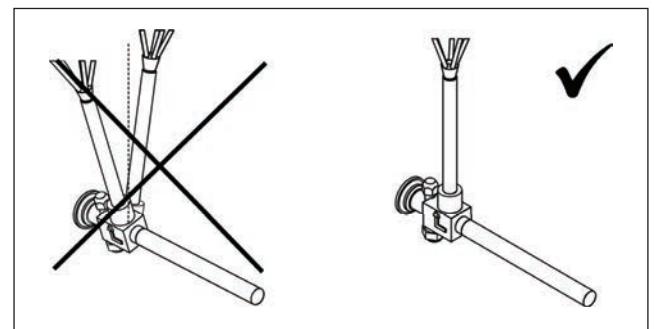

Fig. 11.2
3. Inspect the refrigerant distributor and verify that the nozzle is in place and has no mechanical damages. The distributor must be vertical (Fig. 11.2).